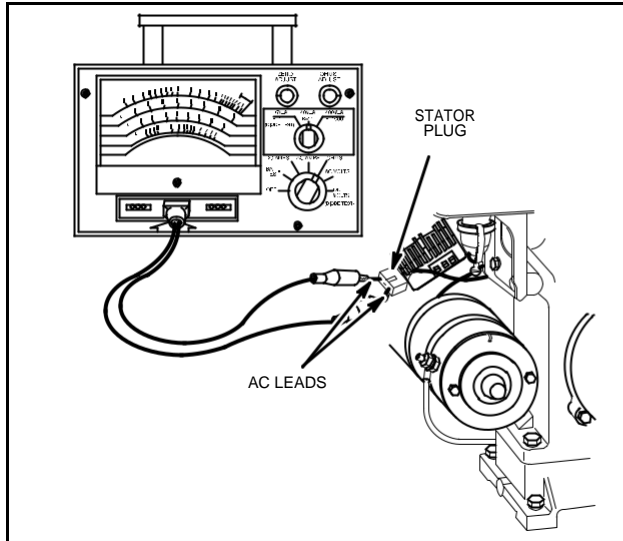

Fig. 778 – TESTING ALTERNATOR OUTPUT
4. Insert RED and BLACK test lead probes into AC output terminals in connector, as shown in Fig. 778.